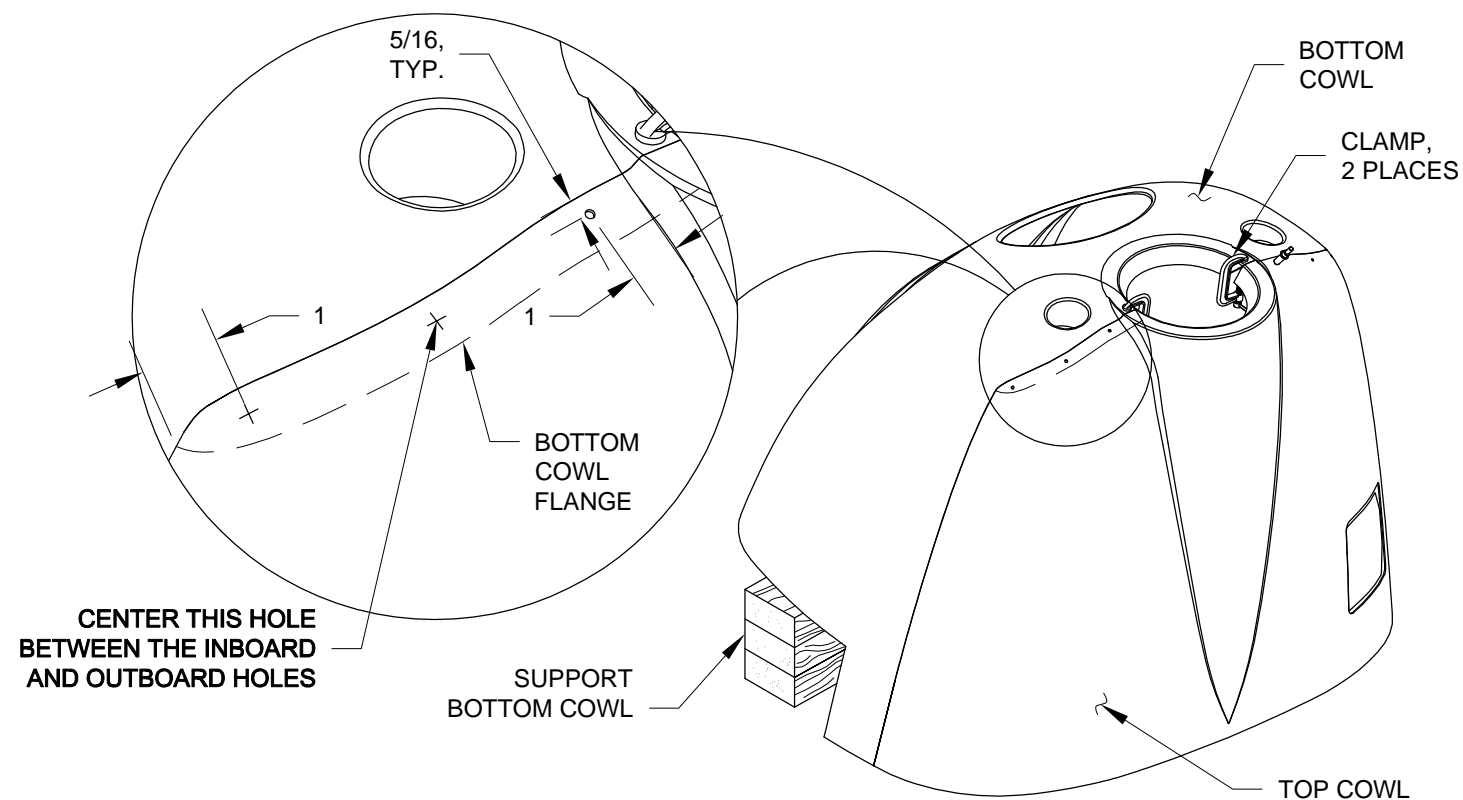

FIGURE 3: FASTENER LOCATIONS
Step 4: Clamp the top and bottom cowls together as shown in Figure 3. Mark the three hole pattern shown in Figure 3 on both sides of the top cowling. Drill #40 the most inboard hole on each side then cleco these two holes. Remove the clecos and separate the top cowl and bottom cowl.